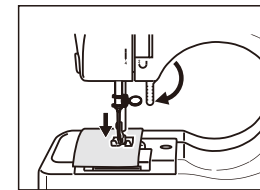

Fig.8
3. Lower the presser foot (Fig. 8 ).